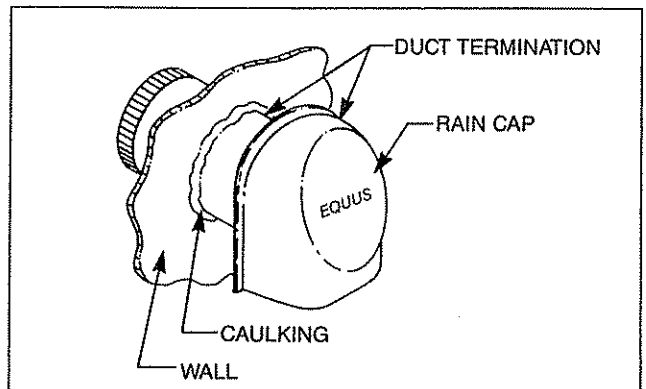

Fig. 32. Caulk and install duct termination/rain cap in place.
4. You are now ready to install the ducting to the collar on the outside air assembly. Attach the duct to the collar using three (3) screws (screws not provided). Continue attaching the ducting together using three (3) screws at each joint until you have installed sufficient duct to arrive at your duct termination location.
5. At the termination end, you should install the duct termination. This should be installed from the outside of the home and should be covered with the rain cap (the rain cap snaps on). Cut a hole in the desired location approximately 4½-inches in diameter, caulk around the hole and slide the termination with rain cap attached, through the opening from outside the home. The termination/rain cap should be caulked around its perimeter to assure a tight seal. The rain cap opening should be positioned downward. (See Fig. 32.)